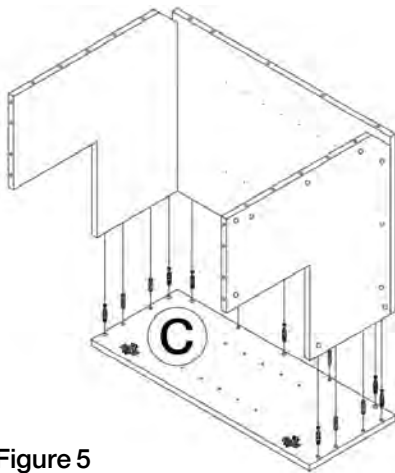

Figure 5
5.Install Top, Bottom, & Back Panels (D,F) onto the right side panel (C). (Figure 5)